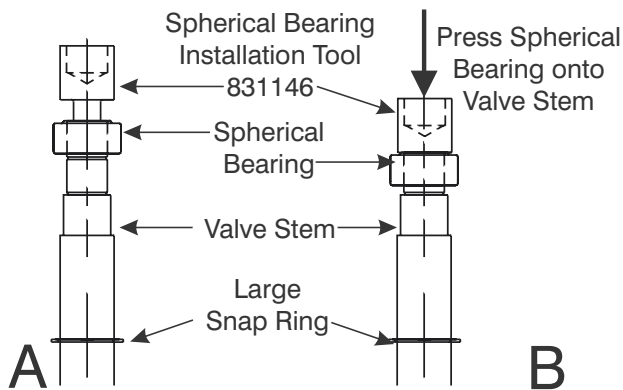

Figure 9-14. Start Spherical Bearing onto The Valve Stem.
and into the center bore of the Valve Stem as shown in Figure 9-14-A.
9. Press the Spherical Bearing onto the Valve Stem until the shoulder of the tool presses against the upper end of the Valve Stem as shown in Figure 9-14-B.